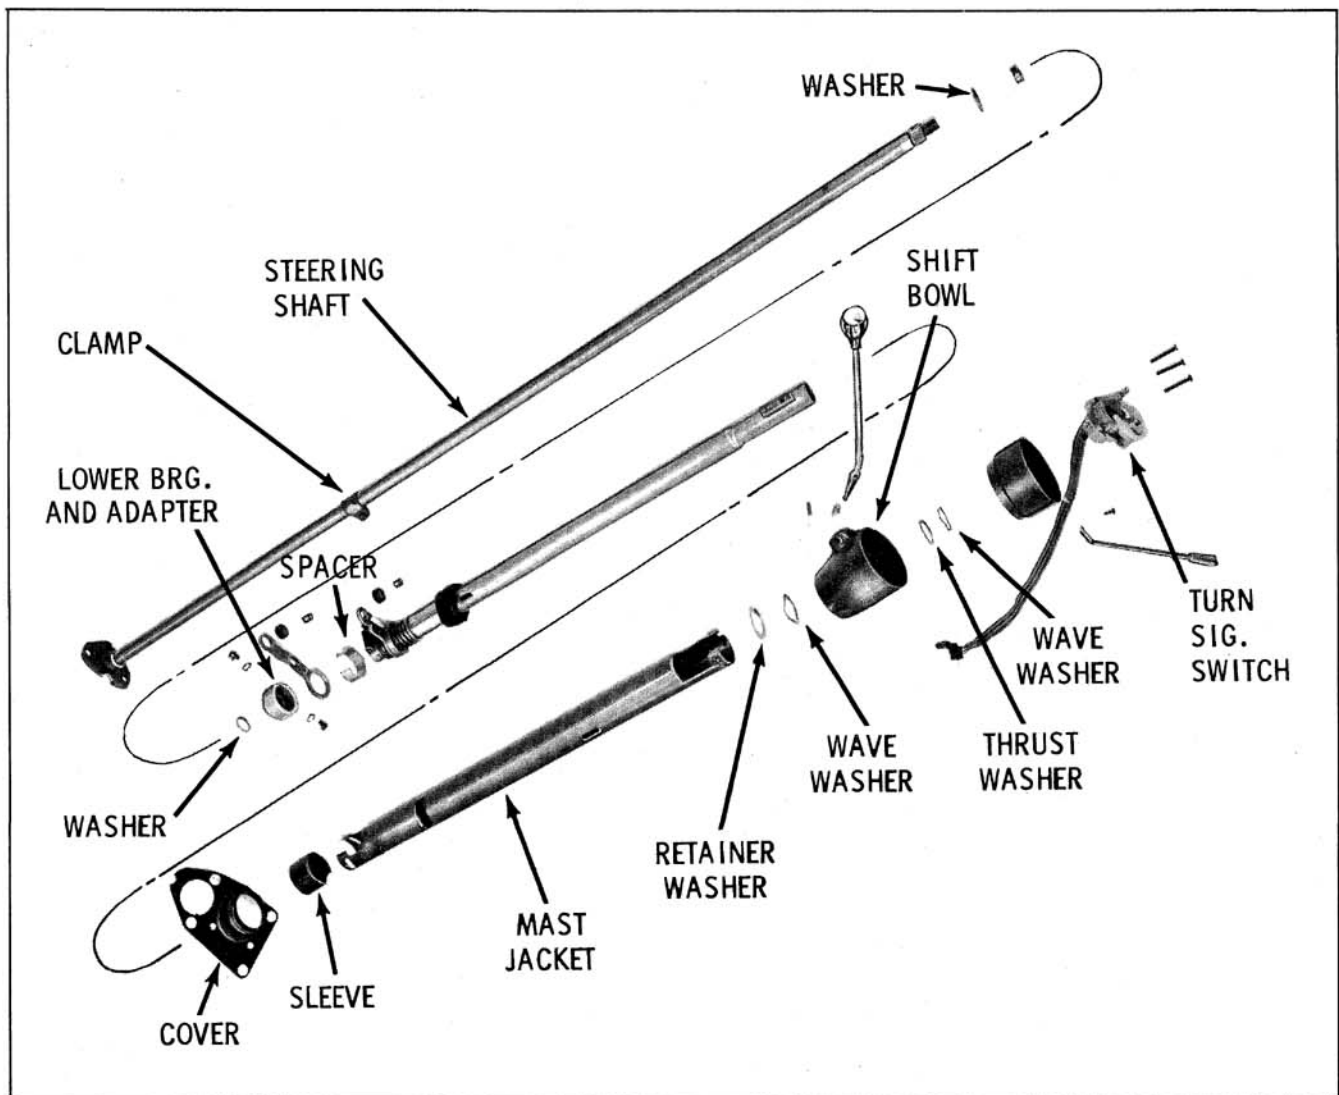

Fig. 8-82 Steering Column - Synchronesh
**DISASSEMBLE (Figs. 8-82 and 8-83)